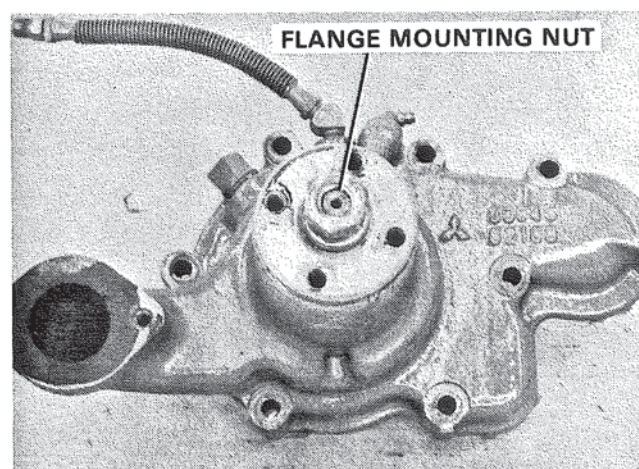

Figure 3. Removing Nut and Flange.
2. Remove flange nut and flange. Figure 3.